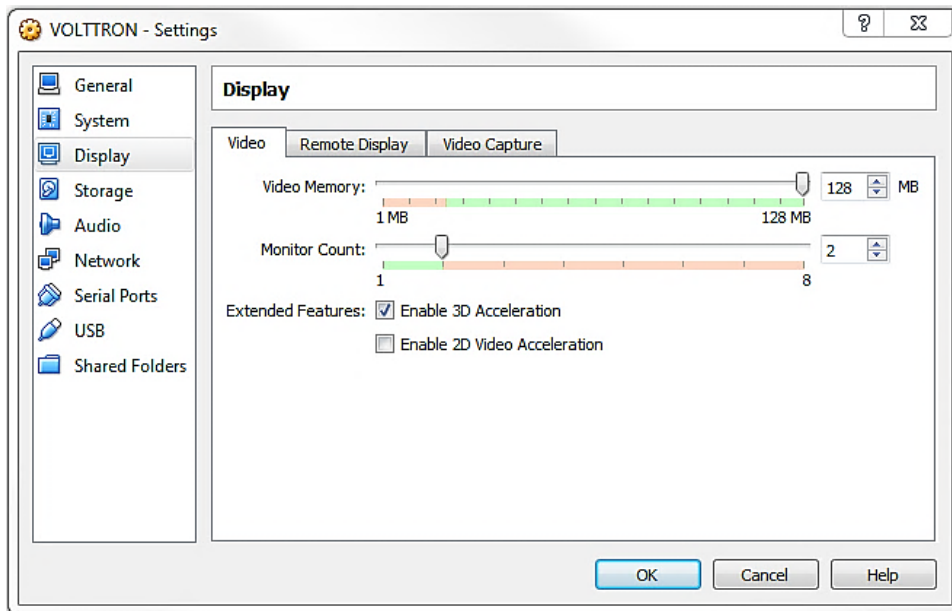

Figure 10: Selection of display type
8. With the newly created VM selected, choose Machine from the VirtualBox menu in the top left corner of the VirtualBox window; from the drop down menu choose Settings. In the Display menu check Enable 3D Acceleration (Figure 10). Choose OK.